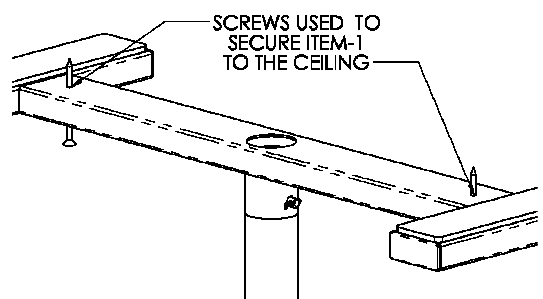

FIGURE 4
The Security Pole is designed to be used with both 8 foot and 9 foot ceilings. Determine where you plan to use this product and the height of the ceiling before assembling. Refer to Figure 4 and note that ITEM-1 has two screw holes used to fasten ITEM-1 to the ceiling. The holes are 16" apart to coincide with the wood ceiling joists in your home. The Screws (ITEM-10) should be fastened into the wood ceiling joists to prevent movement of the Security Pole.
8. Slide ITEM-3 into ITEM-4 and place the Safety Pole in the desired location with ITEM-5 on the floor and ITEM-1 on the ceiling. **NOTE:** Refer to Figure 4 and note that the two wood screws are used to secure ITEM-1 to the ceiling. The two wood screws are to be fastened into the wood ceiling joists to prevent movement of the Security Pole. Before fastening the two wood screws, mark the screw locations and drill these two holes with a 1/8 inch drill bit.